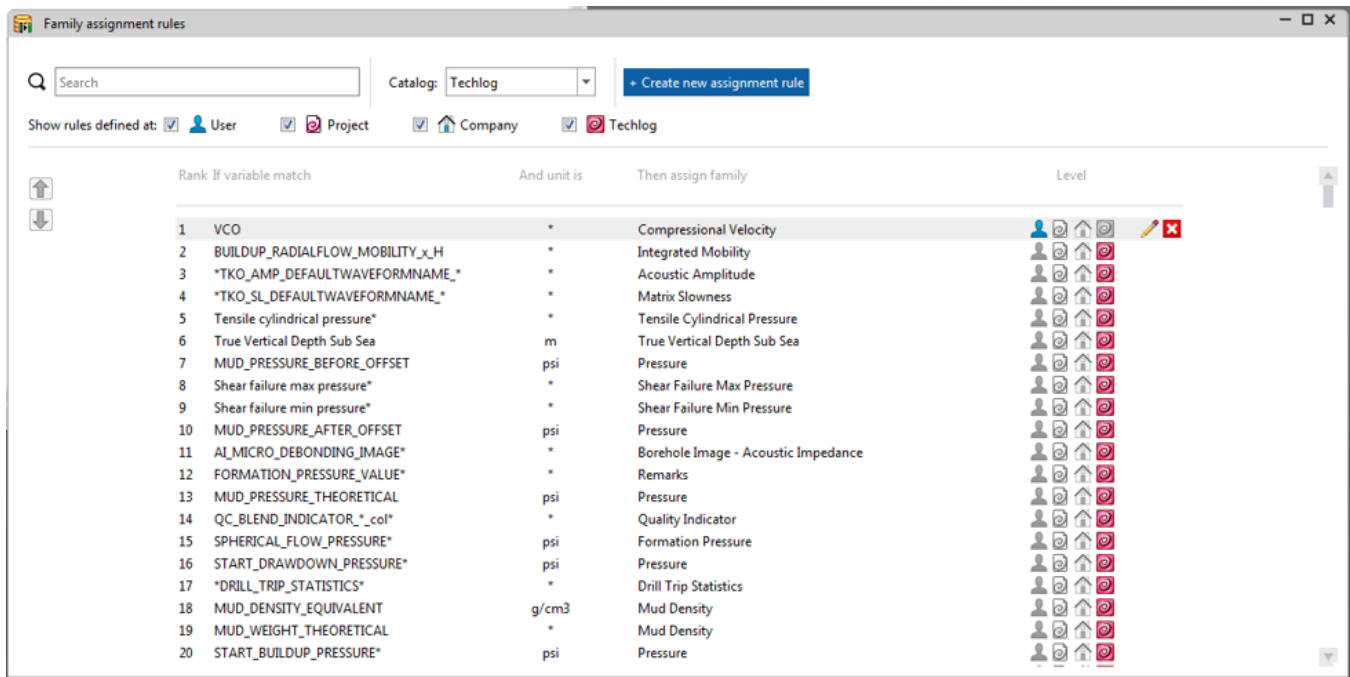

Figure 12. Family assignment rules window.
4. The Family assignment rules window will appear, showing the list of existing rules. Click on the blue Create new assignment rule button (Fig. 12).
6. To edit an existing Family assignment rule, simply click on the pencil icon to the far right (Fig. 12).
7. Close the Family assignment rules window shown in Figure 12.